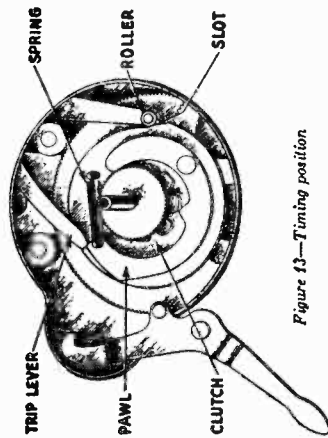

Figure 13—Timing position
- (b) Check the position of the trip lever and roller at this time to see that they are approximately as shown in Figure 13. If the various parts are not in their proper relation, the mechanism should be retimed.
- (d) Lower the pawl carrier into mesh with the gears so that the trip lever is touching the end of the pawl as shown in Figure 13, when the cable lever roller is engaged in the slot on the side of the pawl carrier as shown.
(14) REMOVING MOTOR BOARD